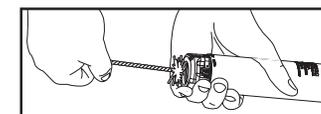

FIGURE 8
2. Brush and/or scrape carbon and copper residue from internal suppressor mounting surface (FIGURE 8).